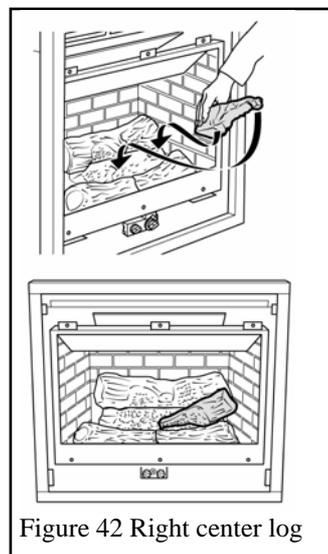

Figure 42 Right center log
4. Identify the right side center log. It is thinner than the left side log. Place the right side center log in position locating the thick part on the right side of the ash bed with its "nose" resting at the center of the ash bed as shown in figure 42.